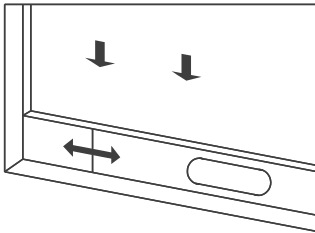
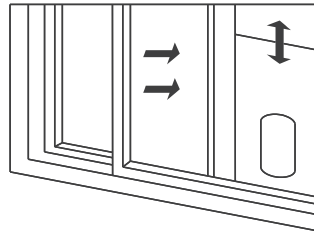

Figure 2
Figure 3
- Half open the window, and mount the window sealing plate assembly to the window (as shown in Fig.2 and Fig.3). Components can be placed in horizontal and vertical direction.